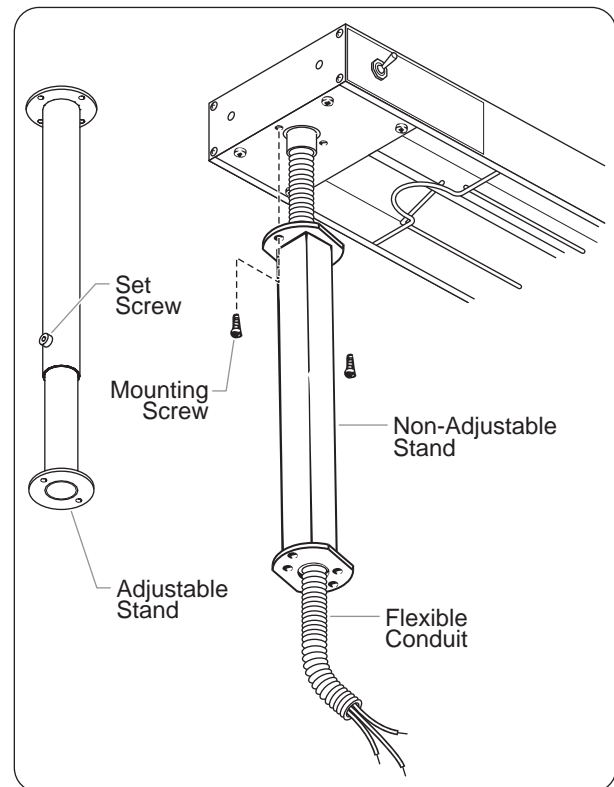

Figure 20. Tubular Stand Mounting
2. If applicable, route the flexible conduit through the center of one of the stands (see Figure 20.)